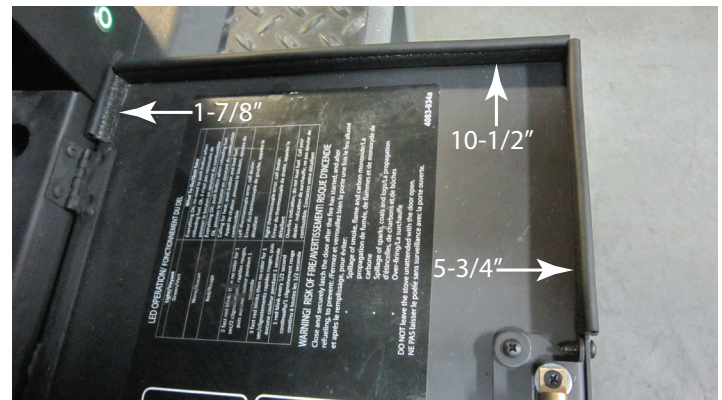
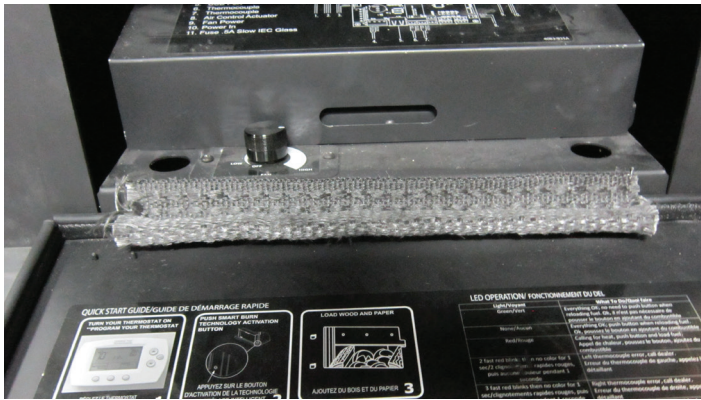

Figure 5.10
Figure 5.12
1. Using a pair of tin snips, cut (1) 1-7/8", (1) 10-1/2" and (1) 5-3/4" out of each piece of rubber gasket.
2. Slide the 6 pieces down over the edge of the door on both ends. See Figure 5.10.
4. Starting with the flat side of the gasket, stick it over the screw heads on the door hinges. Refer to Figure 5.10 and Figure 5.12 for location.